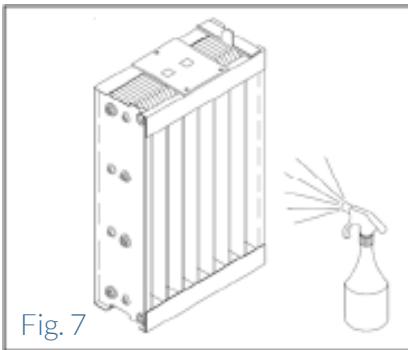

Fig. 7
2. Spray ELIXAIR cell cleaning liquid on the filter cell plates. (Fig. 7).